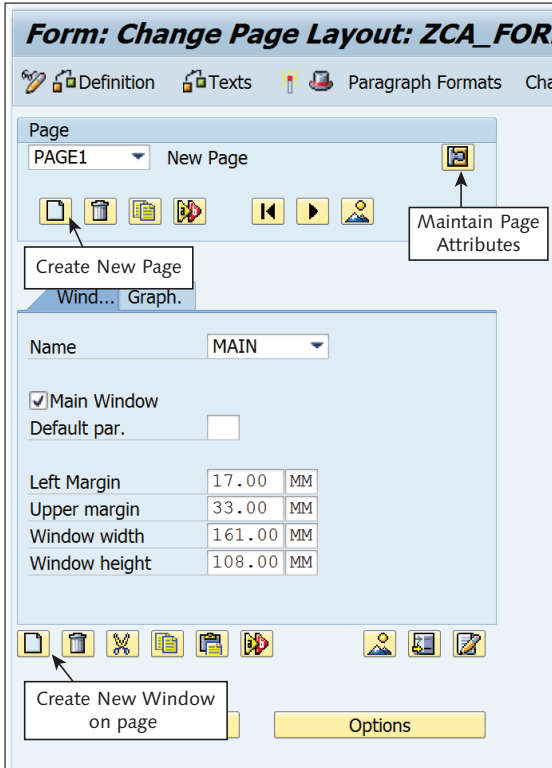

Figure 18.7 Form Painter Page Layout Screen
5. You can create additional windows and pages by using the CREATE button in the respective sections of the Form Painter page layout screen, as shown in Figure 18.7. Certain attributes for the page, such as a short description for the page, the next page that should be called in sequence, and so on, can be maintained by selecting the MAINTAIN PAGE ATTRIBUTES button.
In the page attributes (see Figure 18.7), you can maintain the page sequence accordingly. For example, for PAGE1, the next page will be maintained as PAGE2, and for PAGE2, the next page will be maintained as PAGE2 itself. This way, you can print various information on PAGE1 but print only the item details on subsequent pages. This also helps to reduce the number of pages while printing by ensuring that unnecessary data isn't printed on all pages.